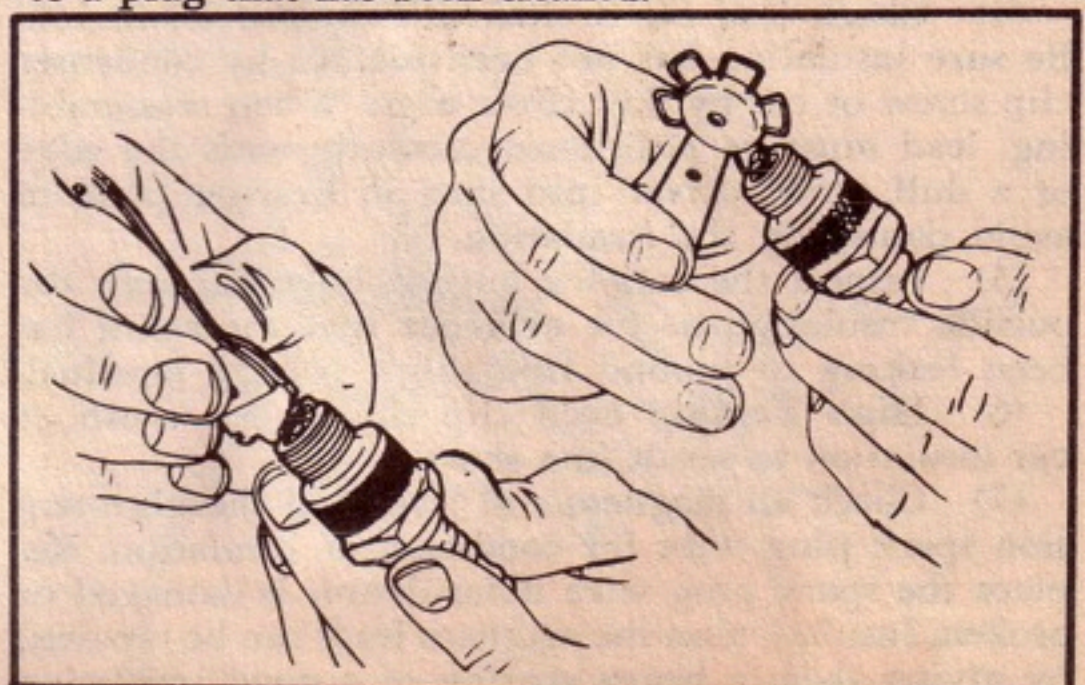

Figure B-8 Checking and Gapping Spark Plug
(3) Regap the spark plug to .025 inch by bending the ground electrode. Do not attempt to bend the center electrode. (See figure B-8).